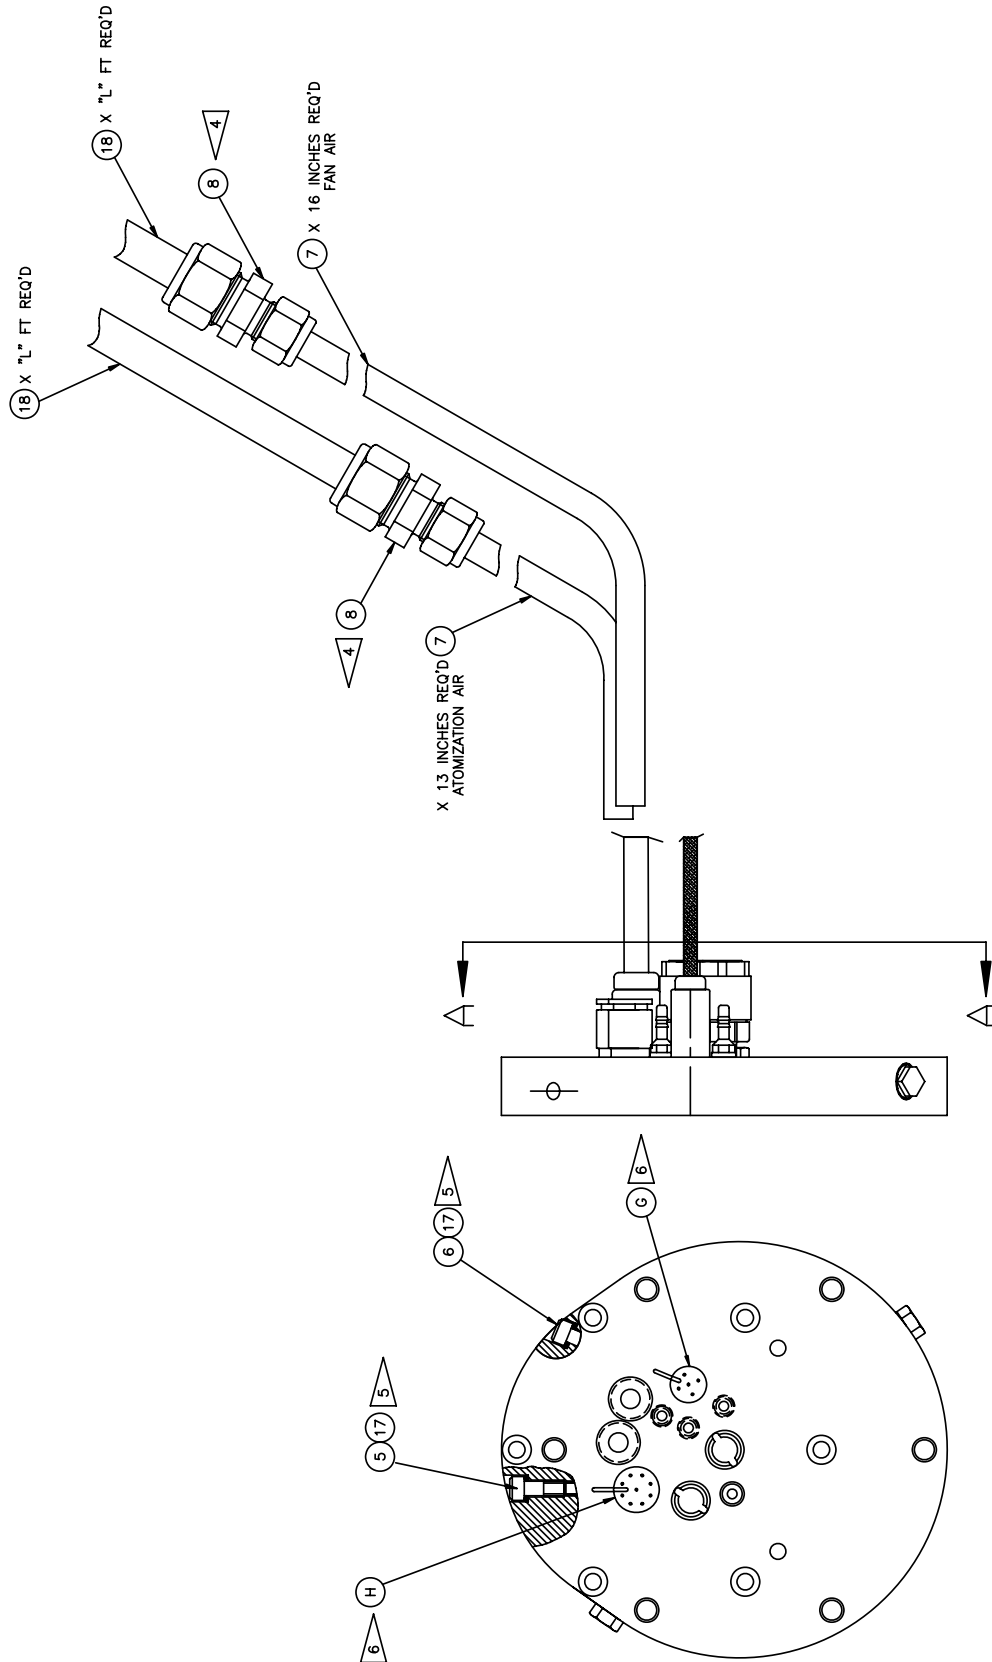

Figure 13a: 76494 Manifold Assembly (Sheet 1 of 2)
76494 MANIFOLD ASSEMBLY - PARTS LIST (Figures 13a & 13b)
PARTS LIST BULLET DEFINITION TABLE (Figures 13a & 13b)
*** PARTS LIST REFERENCE TABLE (Figures 13a and 13b)**